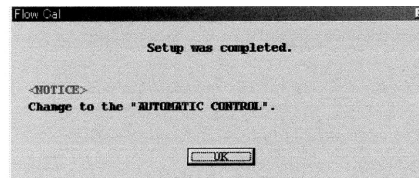

Fig.63
④ When the previous settings are replaced with the new settings just entered in response to clicking on "OK", a message box as shown in Fig. 63 appears. Clicking on "OK" button at this point completes the setup.